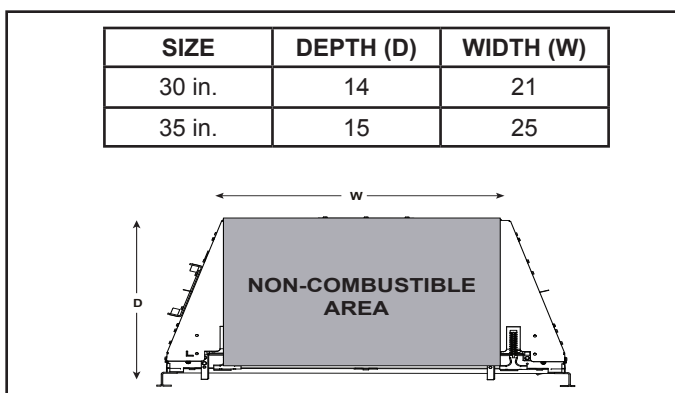

Figure 10.2 Alternate Minimum Non-Combustible Board Coverage Requirement
- If 3/4 in. gap is not achievable, the appliance may be placed directly on a non-metallic 1/2 in. non-combustible board. See Figure 10.2 for minimum required coverage area.